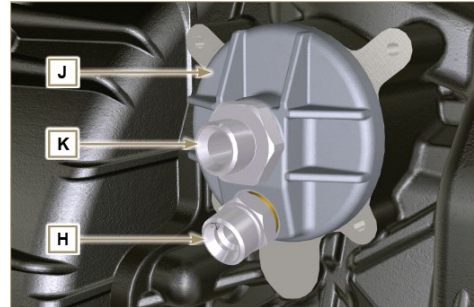
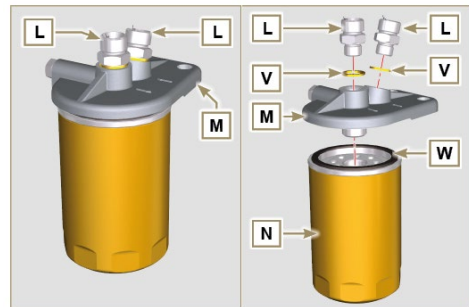

Fig 11.49
Fig 11.50
3. For the disassembly of the pipes **B** and **C**, lock with a tool the fittings **K, H (Fig. 11.49)** and **L (Fig. 11.50)** in order to prevent their